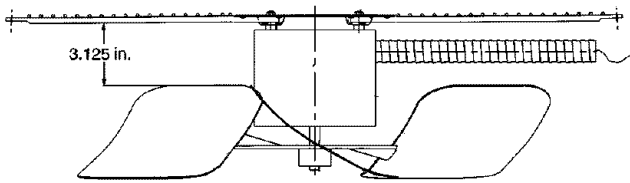

Fig. 21 — Condenser-Fan Adjustment
4. Adjust fan height as shown in Fig. 21.